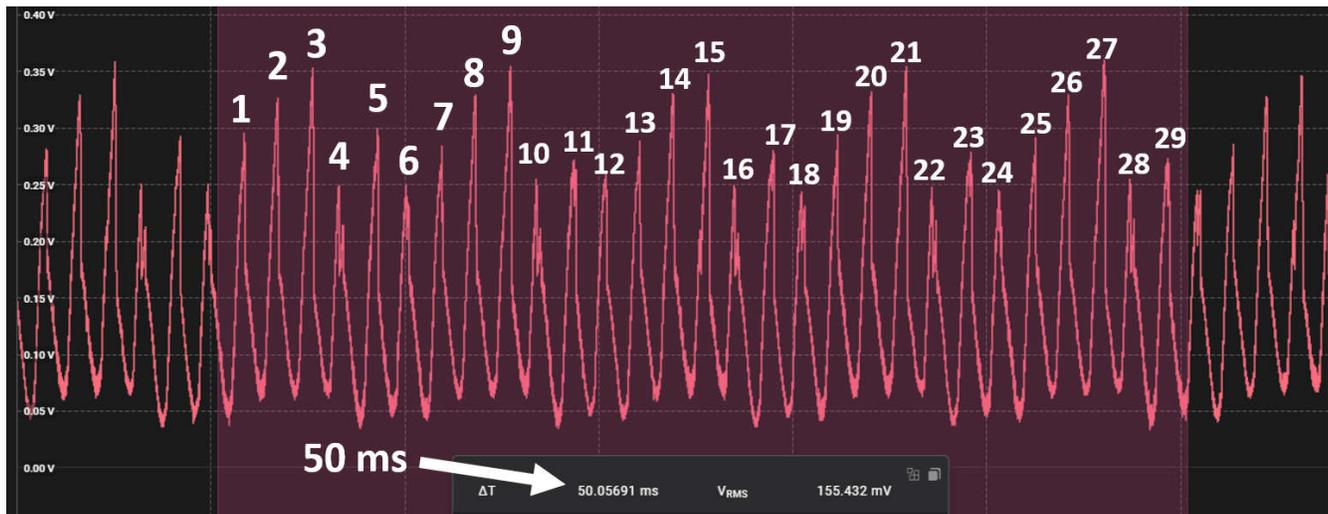

Figure 3-9. Electrical Ripple Speed Measurement
- Capture at least 50 milliseconds of current waveform. Count the number of peaks as shown in Figure 3-9. Input the number of peaks into the *Number of Ripples Manually Calculated* box, and enter the capture time (ex. 50ms) into the Count Duration box. TI recommends counting at least 20 ripples for a given motor.